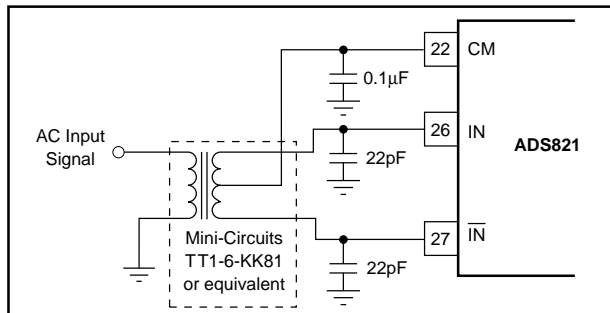

FIGURE 5. AC-Coupled Single-Ended to Differential Drive Circuit Using a Transformer.
The ADS821 has a differential input with a common-mode of +2.25V. For AC-coupled applications, the simplest way to create this differential input is to drive the primary winding of a transformer with a single-ended input. A differential output is created on the secondary if the center tap is tied to the common-mode voltage (CM) of +2.25V per Figure 5. This transformer-coupled input arrangement provides good high frequency AC performance. It is important to select a transformer that gives low distortion and does not exhibit core saturation at full scale voltage levels. Since the transformer does not appreciably load the ladder, there is no need to buffer the common-mode (CM) output in this instance. In general, it is advisable to keep the current draw from the CM output pin below 0.5μA to avoid nonlinearity in the internal reference ladder. A FET input operational amplifier such as the OPA130 can provide a buffered reference for driving external circuitry. The analog IN and  $\overline{\text{IN}}$  inputs should be bypassed with 22pF capacitors to minimize track/hold glitches and to improve high input frequency performance.